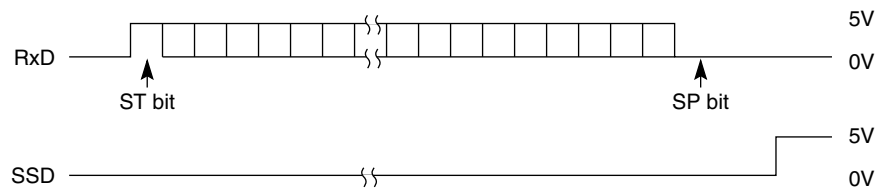

Figure B-3-4
- Yes Is the RxD of Q3 as specified in Figure B-3-4?
② In receiving by serial interface, printing data is omitted or printing operation is not performed.
• Are RxD and SSD of Q3 as specified in Figure B-3-4?